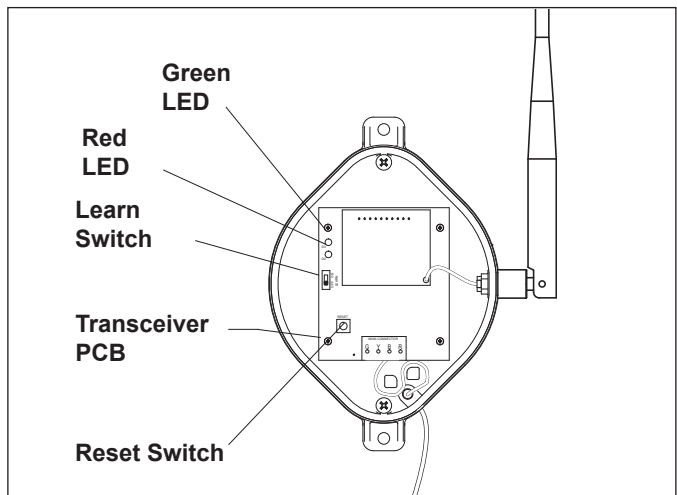

Figure 2. Tranceiver J-box - Internal View
1. At the transceiver J-box, remove the cover to expose the PCB (see Figure 2).